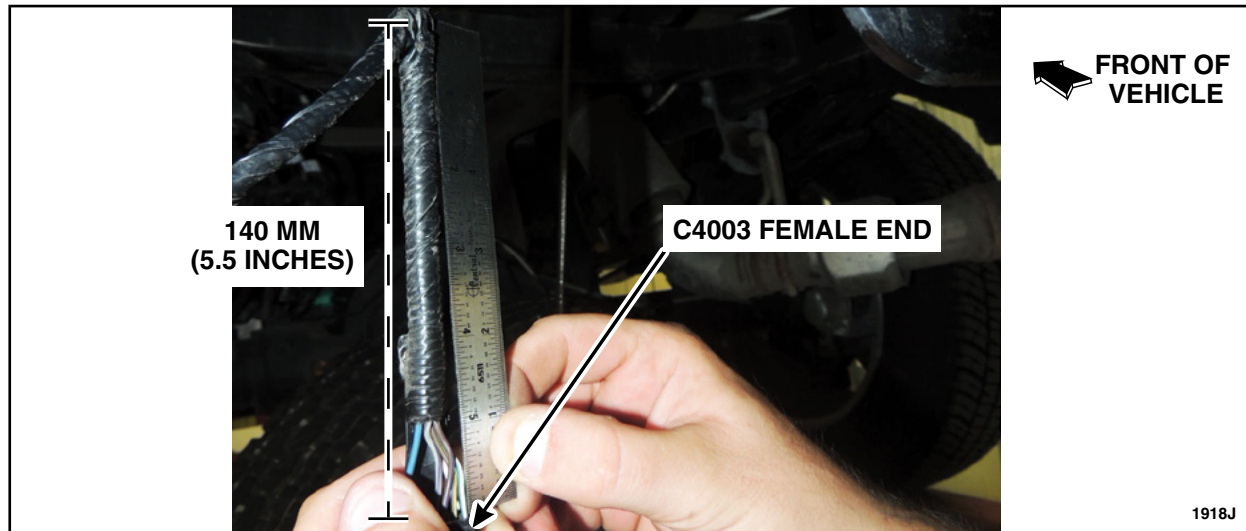

FIGURE 3
6. Measure 140 mm (5.5 in) from the back of the female end of C4003. See Figure 3.